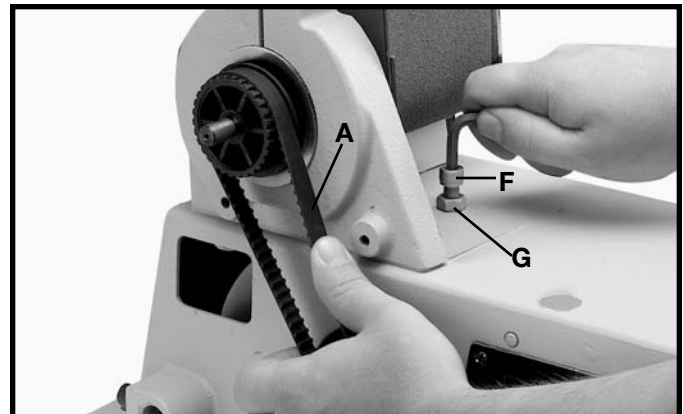

Fig. 4
2. Check to see if the belt (A) Fig. 4, is tensioned properly by applying light pressure to the belt at the center span of the pulleys as shown. **NOTE: THE BELT (A) SHOULD BE FIRM BUT NOT TOO TIGHT. THE BELT DOES NOT REQUIRE EXCESSIVE TENSION TO FUNCTION PROPERLY.**
3. If an adjustment is necessary, loosen locknut (G) Fig. 4, and tighten or loosen adjusting screw (F) until correct tension is obtained. Then tighten locknut (G).